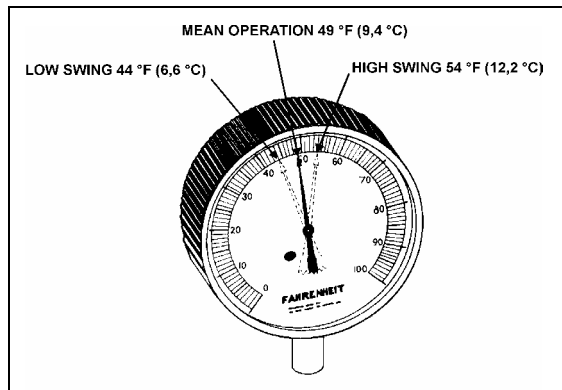

FIGURE 32: HIGH & LOW SWING TEMPERATURE AT REMOTE BULB 22047
6. Check approximately 5 readings of pressure at 2-minute intervals and convert to temperature using the vapor-pressure table (page 52). Likewise check the temperature reading at the remote bulb at the same 2-minute intervals and record the low and high swing readings of the needle (refer to Fig. 32).
Example of readings taken at fig. 32: